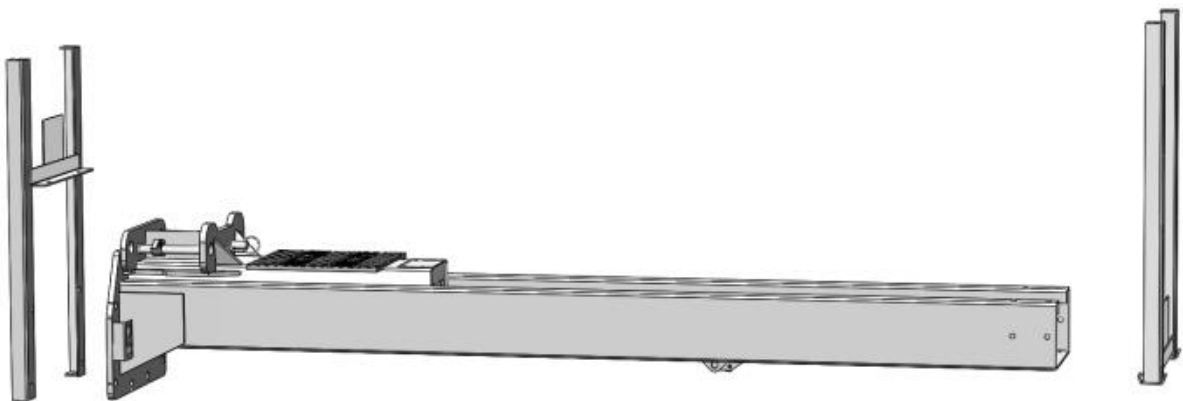

Fig. 14
5. Lift the lower column with a fork lift or hoist, take off the package bracket, then take out the parts inside the column. **(See Fig. 14)**